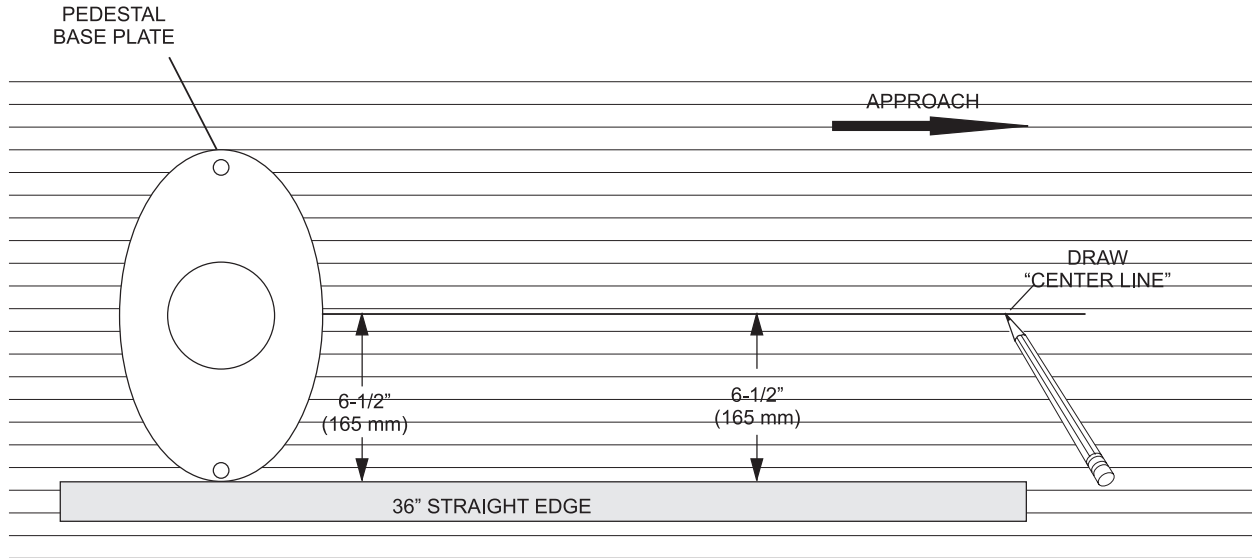

Figure 1
1. Place a 36" (914 mm) long straight edge against the pedestal base plate edge keep straight edge parallel to the board lines of the approach. Refer to *Figure 1*.
2. Make a mark 6-1/2" (165 mm) from the straight edge near the pedestal base plate and also near the back edge of the approach. Refer to *Figure 1*.
3. Align the straight edge on the marks made in step 2 and use a pencil to draw a "Center Line" from the pedestal base plate toward the approach edge. Do not make line too dark as it will be erased later. Refer to *Figure 1*.